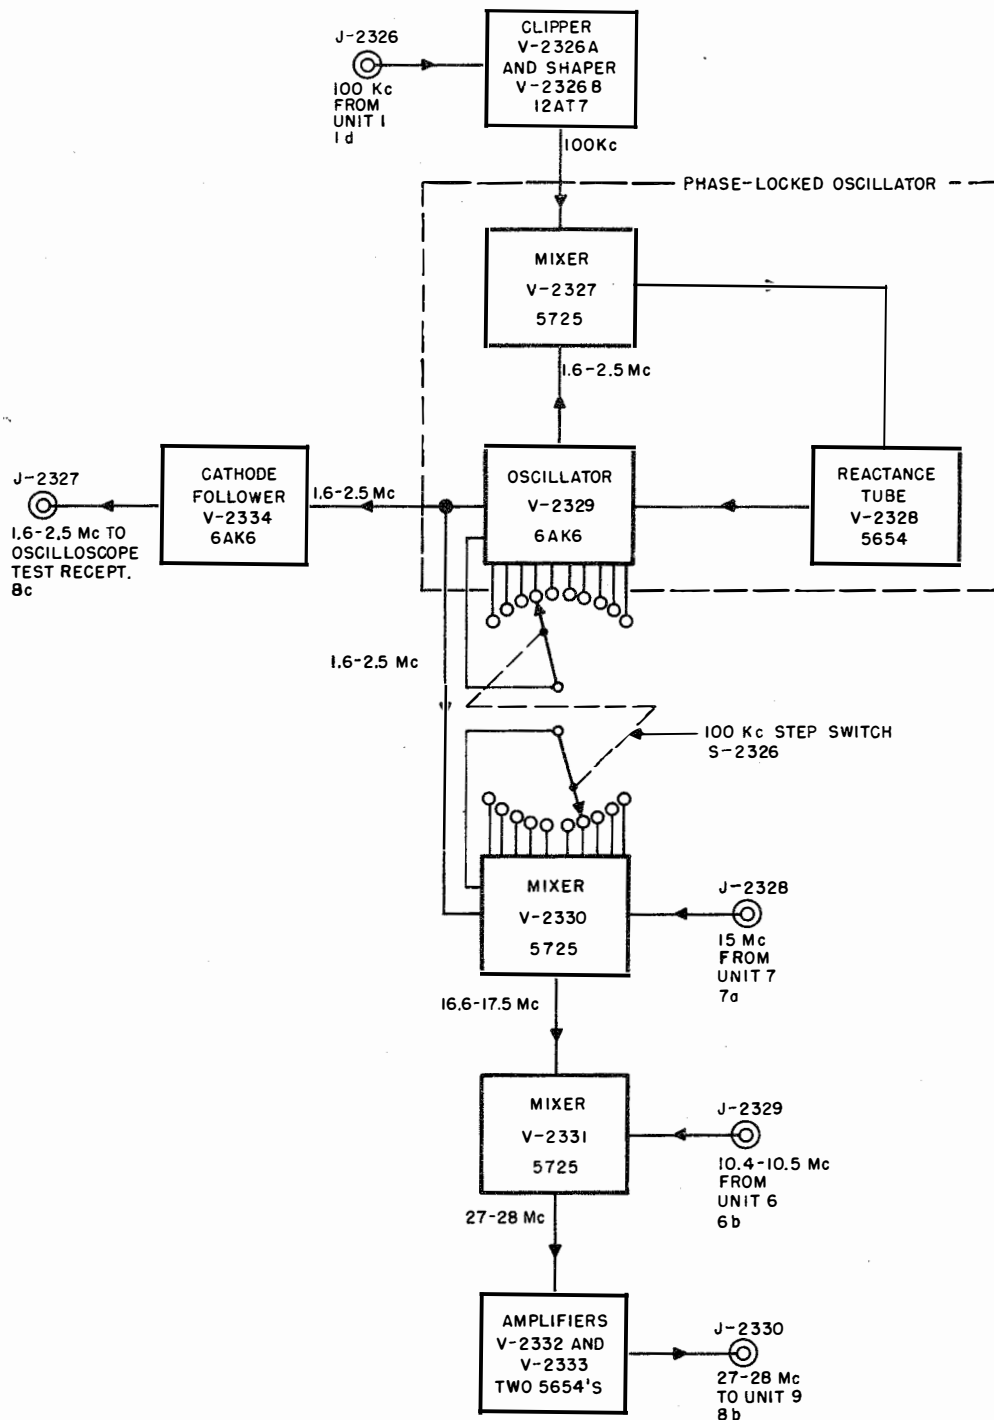

Figure 2-23. RFO Unit 8, Electronic Frequency Converter (100-Kc Step Generator), Block Diagram
j. ELECTRONIC FREQUENCY CONVERTER Z-2330 (100-KC STEP GENERATOR, UNIT 8).— Unit 8 (figure 2-23) is similar to unit 6 and includes a 1.6- to 2.5-mc phase-locked oscillator that may be tuned in steps of 100 kc. This oscillator is locked in to the 100-kc crystal-controlled oscillator in unit 1. The 1.6- to 2.5-mc oscillator output is mixed with 15 mc obtained from unit 7, thus making available frequencies in the range of 16.6 to 17.5 mc. These frequencies are then mixed with 10.4 to 10.5 mc obtained from unit 6. The resulting range of frequencies, 27 to 28 mc, available in steps of 100 kc, 10 kc, and 10 cps, is amplified, filtered, and fed to unit 9. The regulated B+ supply of unit 8 is decoupled by capacitor C-2328. For stability, V-2327, V-2328, and V-2329 use a regulated filament supply.
(1) CLIPPER V-2326A AND SHAPER V-2326B.—The 100-kc output (1d) of unit 1 is received at J-2326, and is coupled by capacitor C-2326 to the grid of clipper